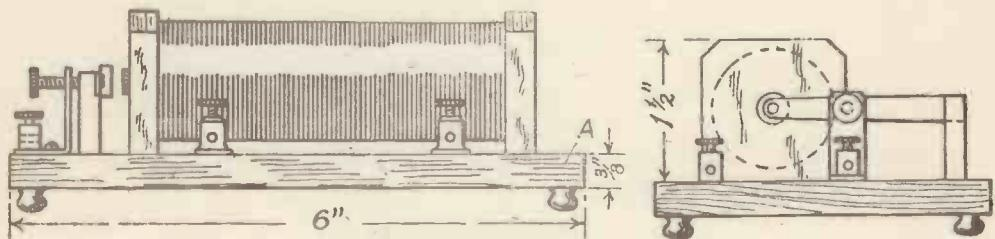
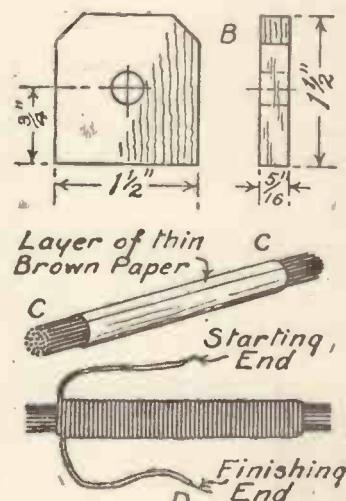
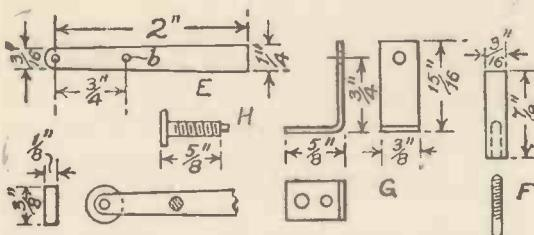

Fig. 1a.—A Side View.
Fig. 2.—How to Wind the Coil.
Fig. 3.—Details of the Contact Screw and Bracket.
**Details of Construction.**—The first part to take in hand is the baseboard A (Fig. 1A), and for this a piece of wood 6 in. long,  $3\frac{1}{2}$  in. wide, and  $\frac{3}{8}$  in. thick will be required. Ordinary deal will answer quite well, and this can afterwards be stained and polished. Two pieces of wood,  $1\frac{1}{2}$  in. square and  $\frac{5}{16}$  in. thick, will also be required for the end cheeks, as shown at B (Fig. 2), which support the core and windings.
Now take the core and proceed to cover it with a layer of thin brown paper, the edges of which overlap  $\frac{1}{2}$  in., and are stuck down with a little glue or seccotine. This paper wrapping should be  $3\frac{3}{4}$  in. wide, so as to allow  $\frac{1}{4}$  in. of the core to be bare at each end, as indicated at CC (Fig. 2).
**Winding the Coils.**—We shall now require 5 yards of No. 22 cotton-covered copper wire for the primary winding, and 26 yards of No. 28 wire (also cotton-covered) for the secondary winding. Take the paper-covered core and proceed to wind on the primary wire, leaving a free end of at least 6 in. to start with, the same amount being left at the finishing end, as shown at D (Fig. 2). The last one or two turns must be bound round tightly with thread to prevent the coil from unwinding. Apply a coating of shellac varnish and cover the coil with thin brown paper. When dry, wind on the secondary wire, leaving about 6 in. at each end for connecting-up purposes. After binding the last two turns with thread, another application of shellac varnish can be given and allowed to dry.
**Contact Breaker.**—This consists of an armature spring, supporting piece, contact screw, and bracket. For the armature spring cut out a piece of thin springy sheet brass, about No. 35 gauge, to the shape shown at E (Fig. 3). The little armature is a soft iron disc  $\frac{3}{8}$  in. diameter and  $\frac{1}{8}$  in. thick. A hole should be drilled through the centre of it so that it can either be screwed or riveted to the end of the spring.
The contact piece on the spring is of silver, and for this a link from an old silver watch chain can be used. Straighten the link out, and, after cutting off a piece  $\frac{1}{8}$  in. long, insert it in the hole made at b, and burr it over on both sides of the spring by tapping with a light hammer till a flat surface of silver is formed about  $\frac{1}{8}$  in. diameter, as indicated in Fig. 3.
The bracket G, for the contact screw, can be bent to shape from a piece of sheet brass about  $\frac{1}{16}$  in. thick after drilling the two holes near one end for the fixing screw and terminal stem, and drilling and tapping the hole near the other end for the contact screw. For the latter, obtain a brass screw, with a milled head if possible, and in the end drill a small hole and solder in a short piece of silver wire from the watch-chain link, leaving about  $\frac{1}{16}$  in. projecting, as depicted at H (Fig. 3). Fix the bracket to the baseboard with a small round-headed brass screw and terminal, as shown in Fig. 1A. See that the end of the silver wire on the contact screw touches the centre of the silver contact piece on the armature spring when the latter is in its normal position. Screw another terminal into the baseboard in the position indicated in Fig. 1.